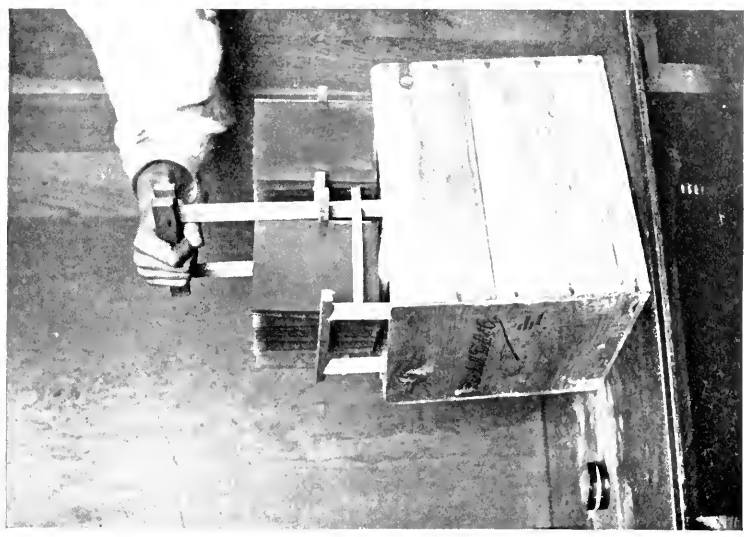

Fig. 172. A WASHING BOX AND DRYING RACK.
**A Washing-box**, after the scheme of Fig. 172, made to hold the negatives while washing them. This box will